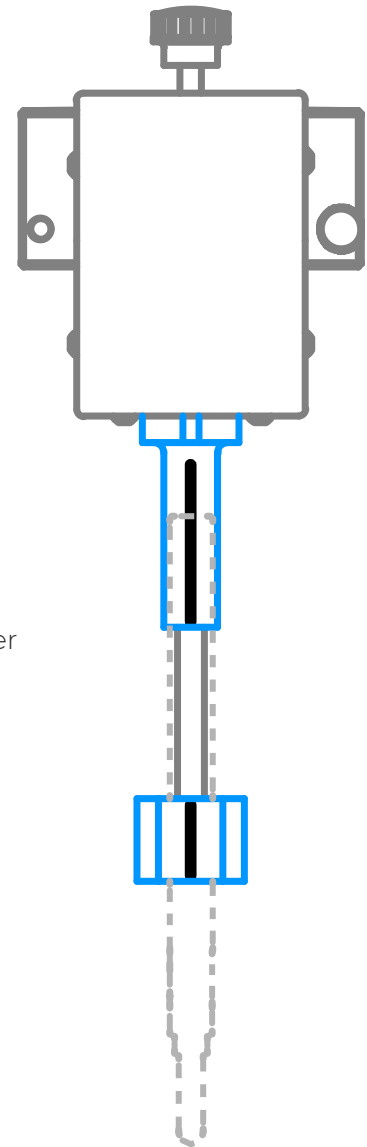

Figure 7-5:
3. Insert the black rod of the detector/mount assembly into the scanning arm's blue bracket. Match the white alignment lines of both blue detector bracket pieces as shown in Figure 7-5. Align the detector with the light field adjusting the position from step 1 if necessary.